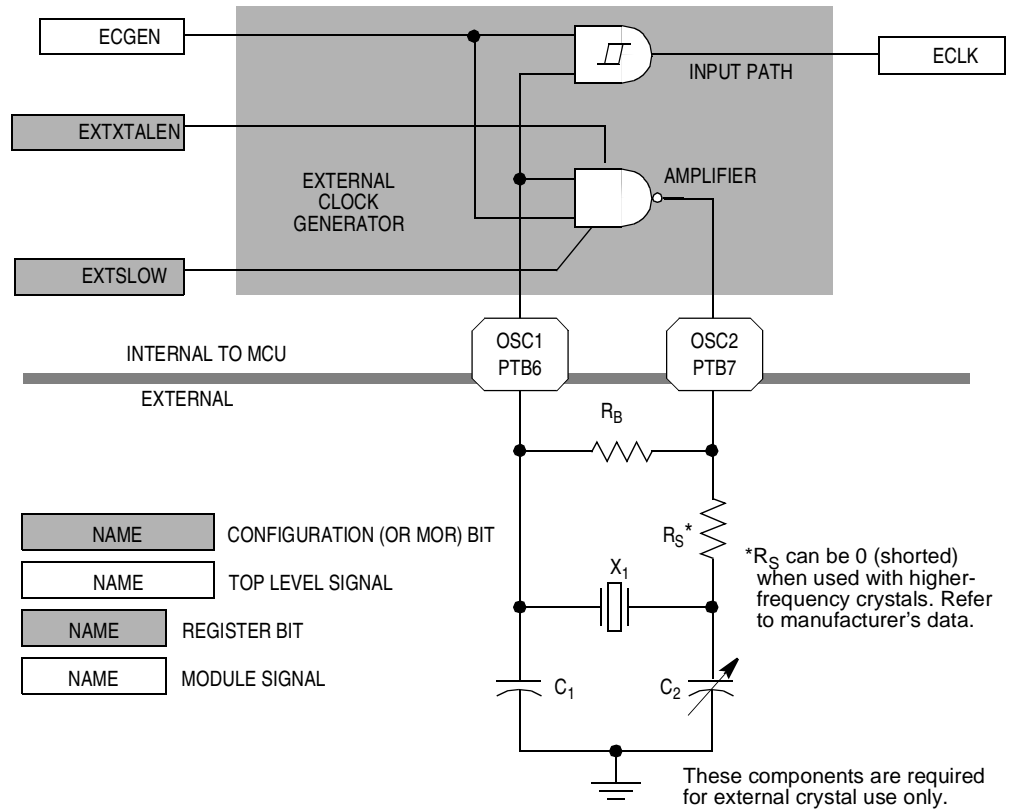

Figure 7-3. External Clock Generator Block Diagram
The ICG also provides for an external oscillator or external clock source, if desired. The external clock generator, shown in **Figure 7-3**, contains an external oscillator amplifier and an external clock input path.
5. Series resistor, R_S (included in Figure 7-3 to follow strict Pierce oscillator guidelines and may not be required for all ranges of operation, especially with high frequency crystals. Refer to the crystal manufacturer's data for more information.)